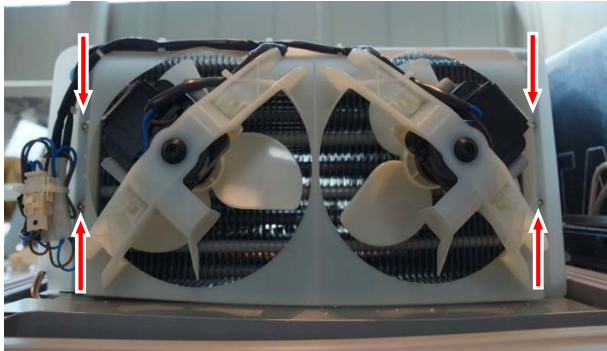

Fig. 5.3 /1
- Undo fan holder screw and remove the fans (**Fig. 5.3 /1**).